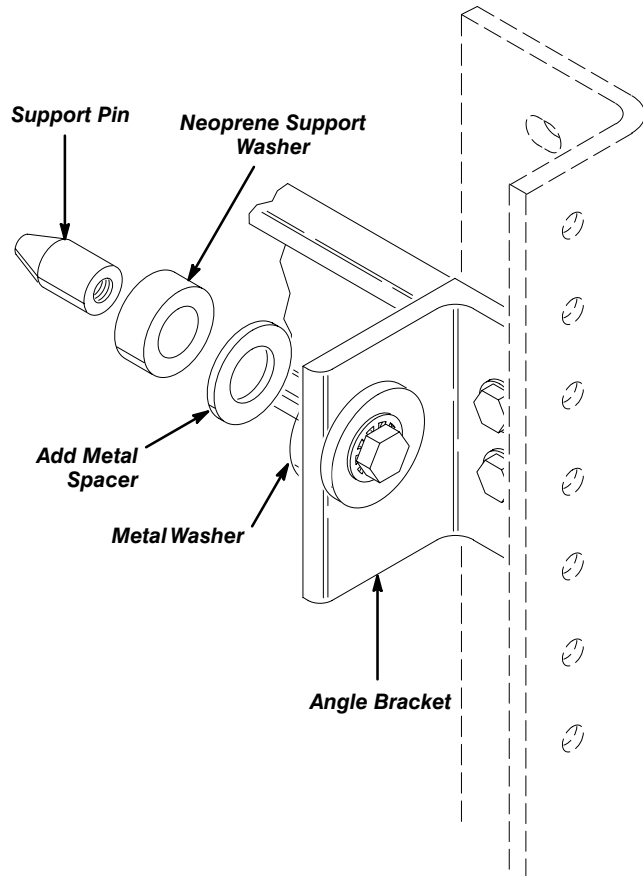

Figure 25: Adding the Spacer to the Rear Support
- d. Remove the neoprene washers from the support pins, install the metal spacers on the support pins; then, re-install the neoprene washers. See Figure 25.